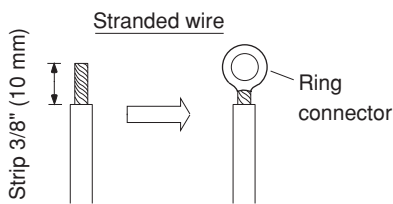

Fig. 11
- (1) Cut the wire end with a cutting pliers, then strip the insulation to expose the stranded wiring about 3/8" (10 mm) and tightly twist the wire ends. (Figs. 11 and 12)
- (2) Using a screwdriver, remove the terminal screw(s) on the terminal plate.
- (3) Using a ring connector fastener or pliers, securely clamp each stripped wire end with a ring connector. (Fig. 11)